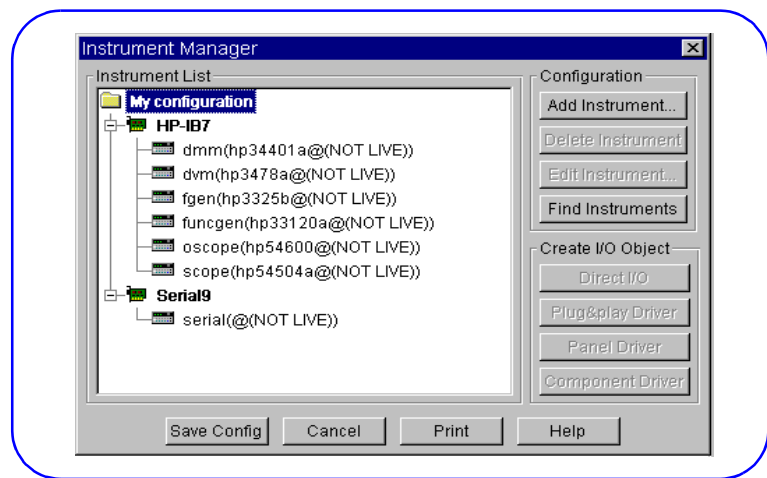

Figure 34. HP VEE Instrument Manager - Default Screen
- 1 To run this example, turn PC and mainframe power ON and open HP VEE. Then, select the *I/O/Instrument Manager...* menu item to display the default Instrument Manager screen (see Figure 34).